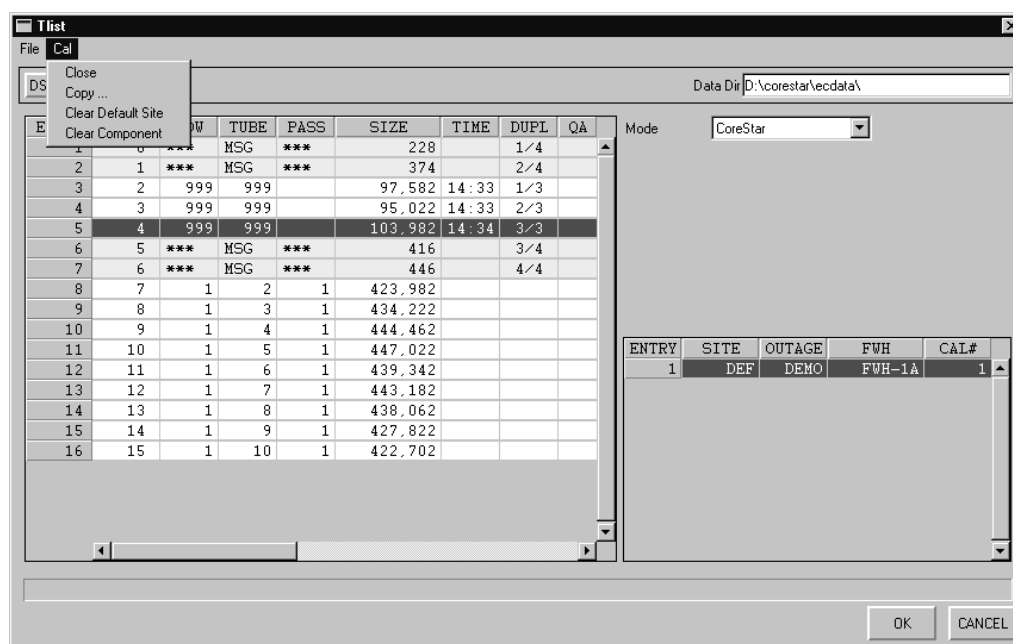

Figure 3-53. Cal Menu in TLIST Dialog
- **TLIST > Cal > Clear Default Site** (see Figure 3-53) clears the site information that was selected via the **Cal Information** window when a cal group was initially opened. If **Cal > Clear Default Site** is selected, the next time a cal group is **double-clicked**, the **Cal Information** window may appear as if opening the cal group for the first time. This is useful if the incorrect site information was initially selected. For more information, see **Opening a Cal Group** earlier in this section.